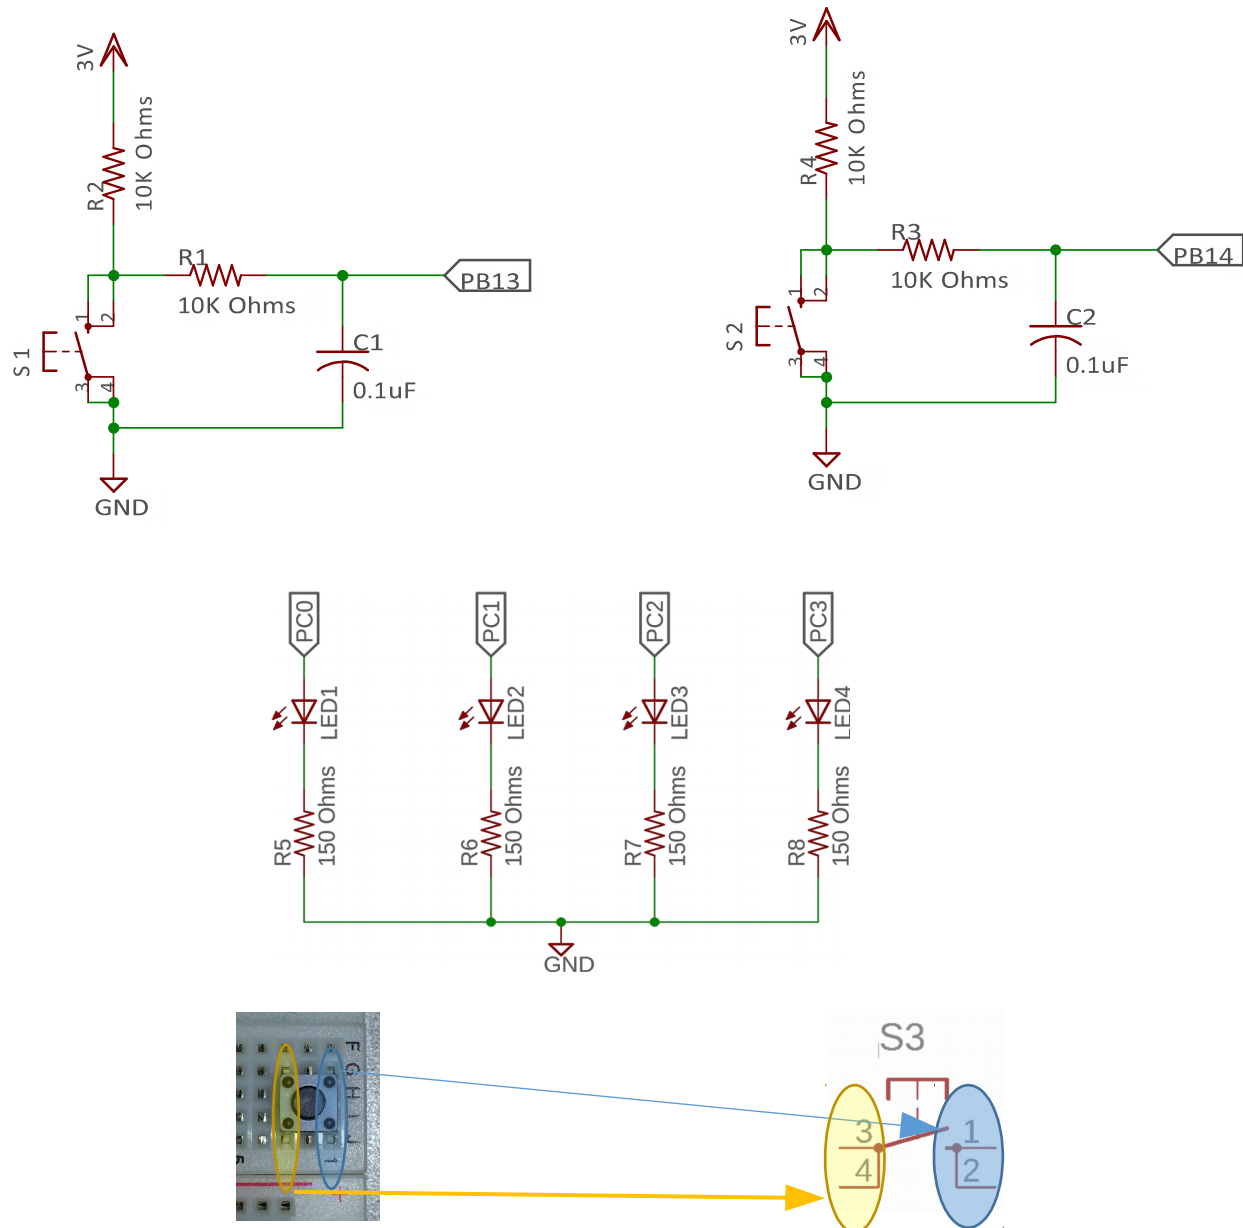

Figure 3. Schematic for wiring LEDs and push buttons
**Unplug the power from your STM32 first, THEN** wire your circuit as shown in Fig 3. When you have completed your wiring, show your circuit to your TA. Ensure that you connect the resistors for the buttons to the 3V (3.3V) power. In other words, **SHOW YOUR WIRING TO YOUR TA BEFORE YOU PLUG IT BACK IN.** To test your wiring uncomment “*bl test\_wiring*”. The right wiring will turn on the LED’s in a binary sequence, and will stop when any one of the wired buttons is pressed and restarts as soon as one it’s released.